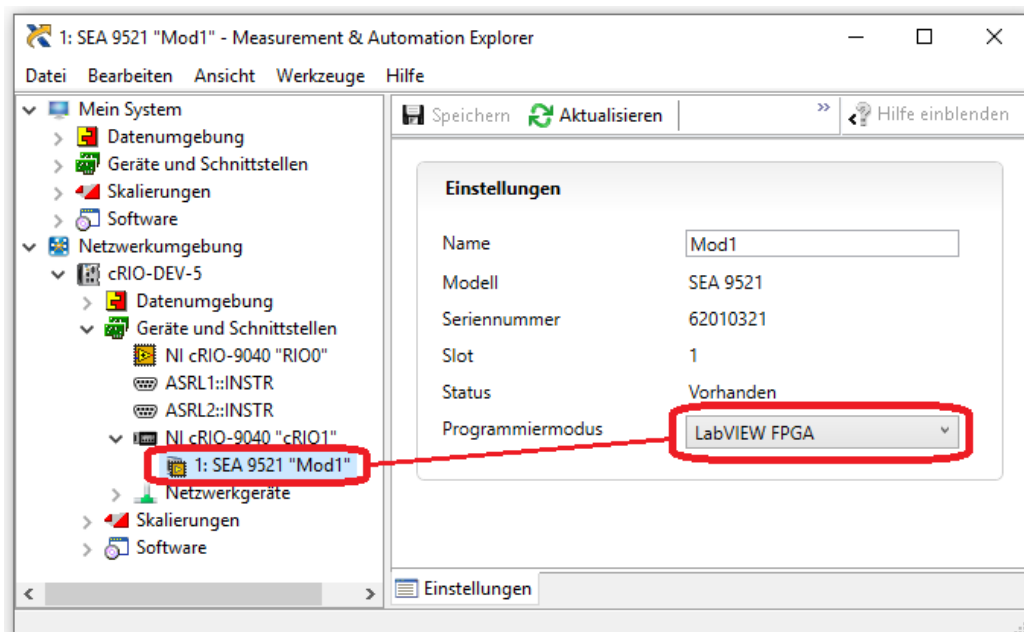

Fig. 1: Quick Start – NI-MAX configuration
5. Optional (required for cRIO-904x/905x): Detect/add the NI CompactRIO system in the NI-MAX (*Measurement & Automation Explorer*) *Remote Systems* (German: *Netzwerkumgebung*). In the *Devices and Interfaces* settings, ensure that the SEA 9521 is configured to the Program Mode *LabVIEW FPGA*, refer Fig. 1. Close NI-MAX afterwards.